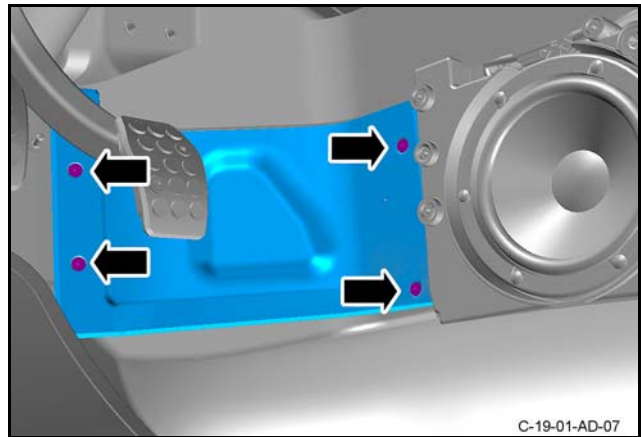

Figure 18
- 36. On all vehicles, put the scuff-plate into position (refer to Figure 18).